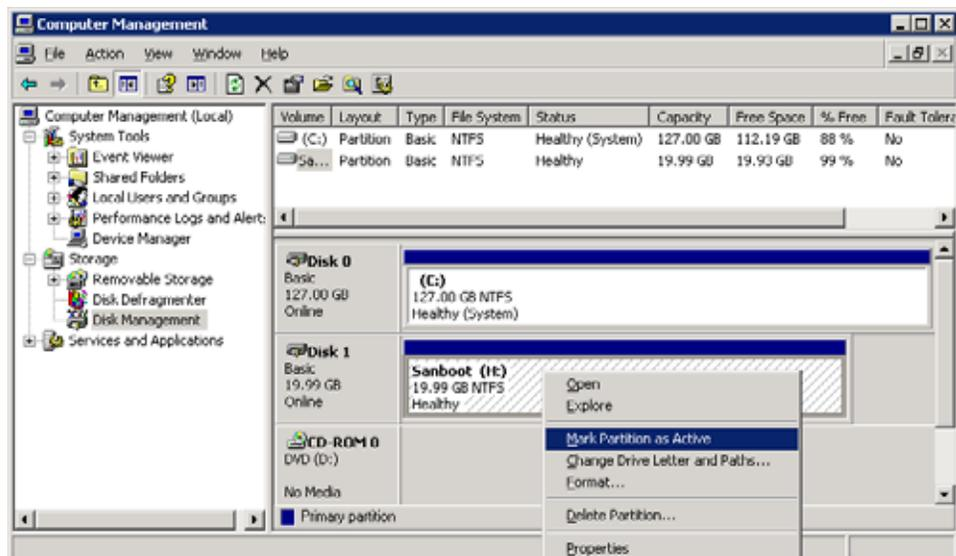

Figure 9 Server Manager — Marking Partition Active
Step 7 Right-click the newly created volume and select “Mark Partition as Active” as shown in Figure 9.